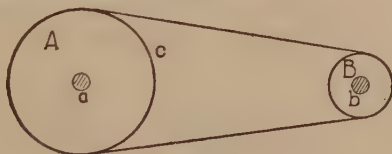

Figure 1
In figure 1, *A* and *B* are two pulleys connected by a belt. Let us suppose that shaft *a* to which *A* is fastened is driven by the engine. That is, *a* is the drive shaft. Hence, pulley *A* is the *driver* pulley and pulley *B* is the *driven* pulley. On a machine the *driven* pulley which is driven by a pulley on a shaft is often referred to as the *drive* pulley or the *driving* pulley. But in this book we shall always refer to a pulley which drives another pulley as a *driver* pulley and to a pulley driven by another pulley as a *driven* pulley.
**Surface Speed.** Returning to figure 1, suppose pulley *A* makes 300 R.P.M., and is 10 feet in circumference. That is, the point *c* on the rim of the pulley travels 10 feet at every revolution of the pulley. Hence, in one minute it travels  $300 \times 10$  ft. or 3000 ft. The *surface speed* of pulley *A* is, therefore, 3000 ft. per minute. Letting S.S. stand for surface speed we, therefore, have the following equation (or formula):
(5) S.S. of *A* = R.P.M. of *A*  $\times$  cir. of *A*. Since the circumference of a circle =  $3.1416 \times$  the diameter of a circle, equation (5) may be written:
(6) S.S. of *A* =  $3.1416 \times$  dia. of *A*  $\times$  R.P.M. of *A*. Dividing both sides of equation (6) by  $3.1416 \times$  dia. of *A* we have: